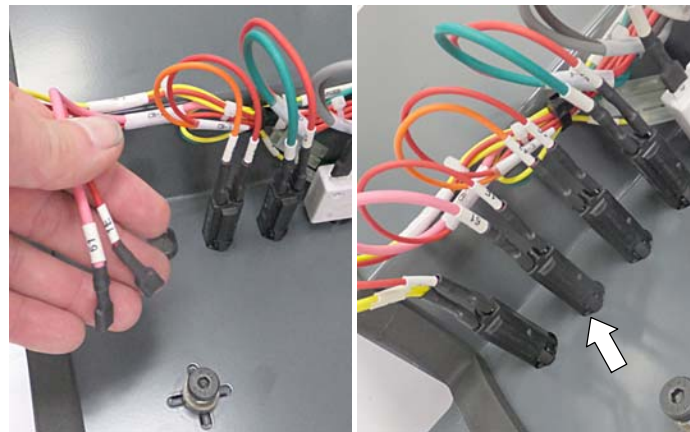

Fig. 19
- Locate the factory installed wires, pink/61 and red/E1, and connect them to the 10A circuit breaker as shown (Figure 19).